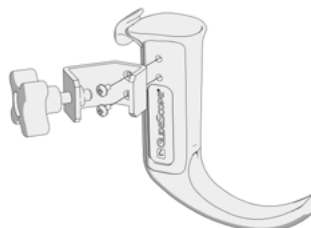
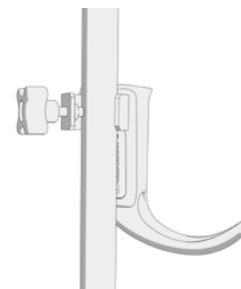

Figure 18: Attach the clamp to the baton cradle
Figure 19: Clamp the cradle to the pole
1. Screw the center pole clamp to the GlideScope video baton cradle (**Figure 18**).
2. Attach the center pole clamp and GlideScope video baton cradle to the mobile stand or IV pole, and then turn the black knob clockwise to tighten (**Figure 19**).
To attach a video baton cradle to the IV pole refer to **Figure 18 & Figure 19**.